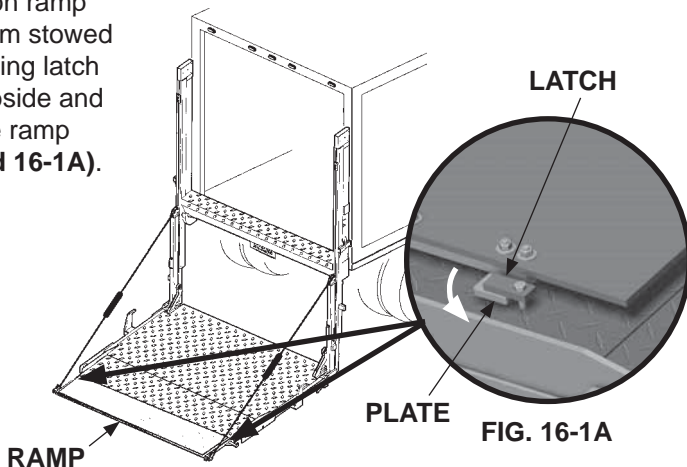

FIG. 16-1
1. Release retention ramp (if equipped) from stowed position by rotating latch off plate on curbside and streetside of the ramp (FIGS. 16-1 and 16-1A).